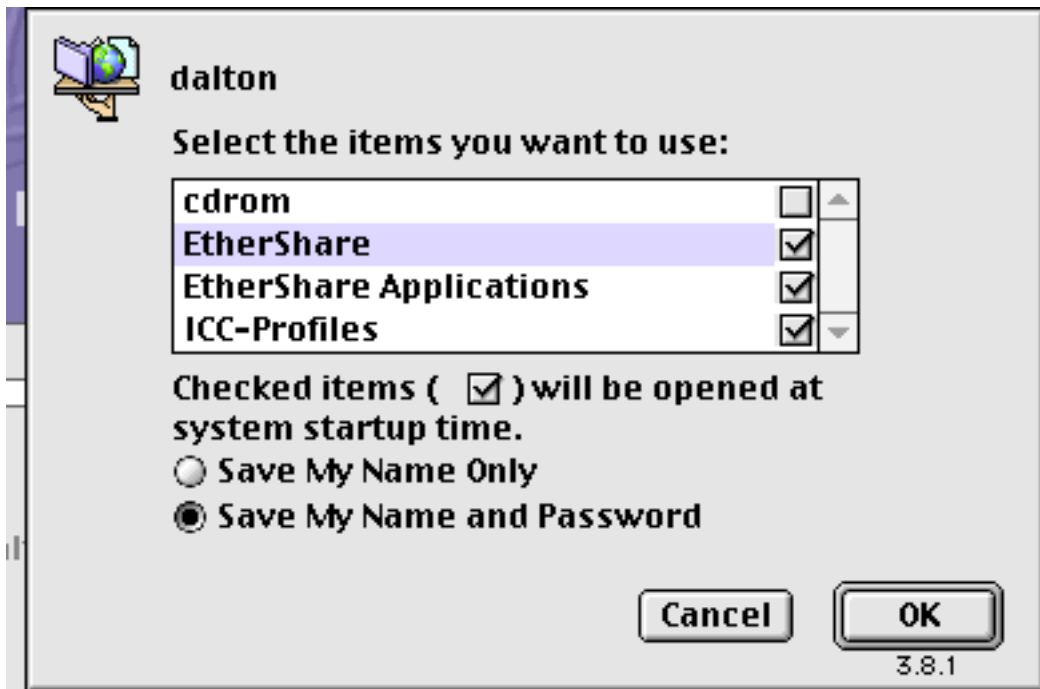

Figure 39. Sample connection dialog
- c. From the **Dalton** dialogue (displayed in Figure 39 on page 149) – where **Dalton** is the name of the Infoprint AIX server – press **OK**.